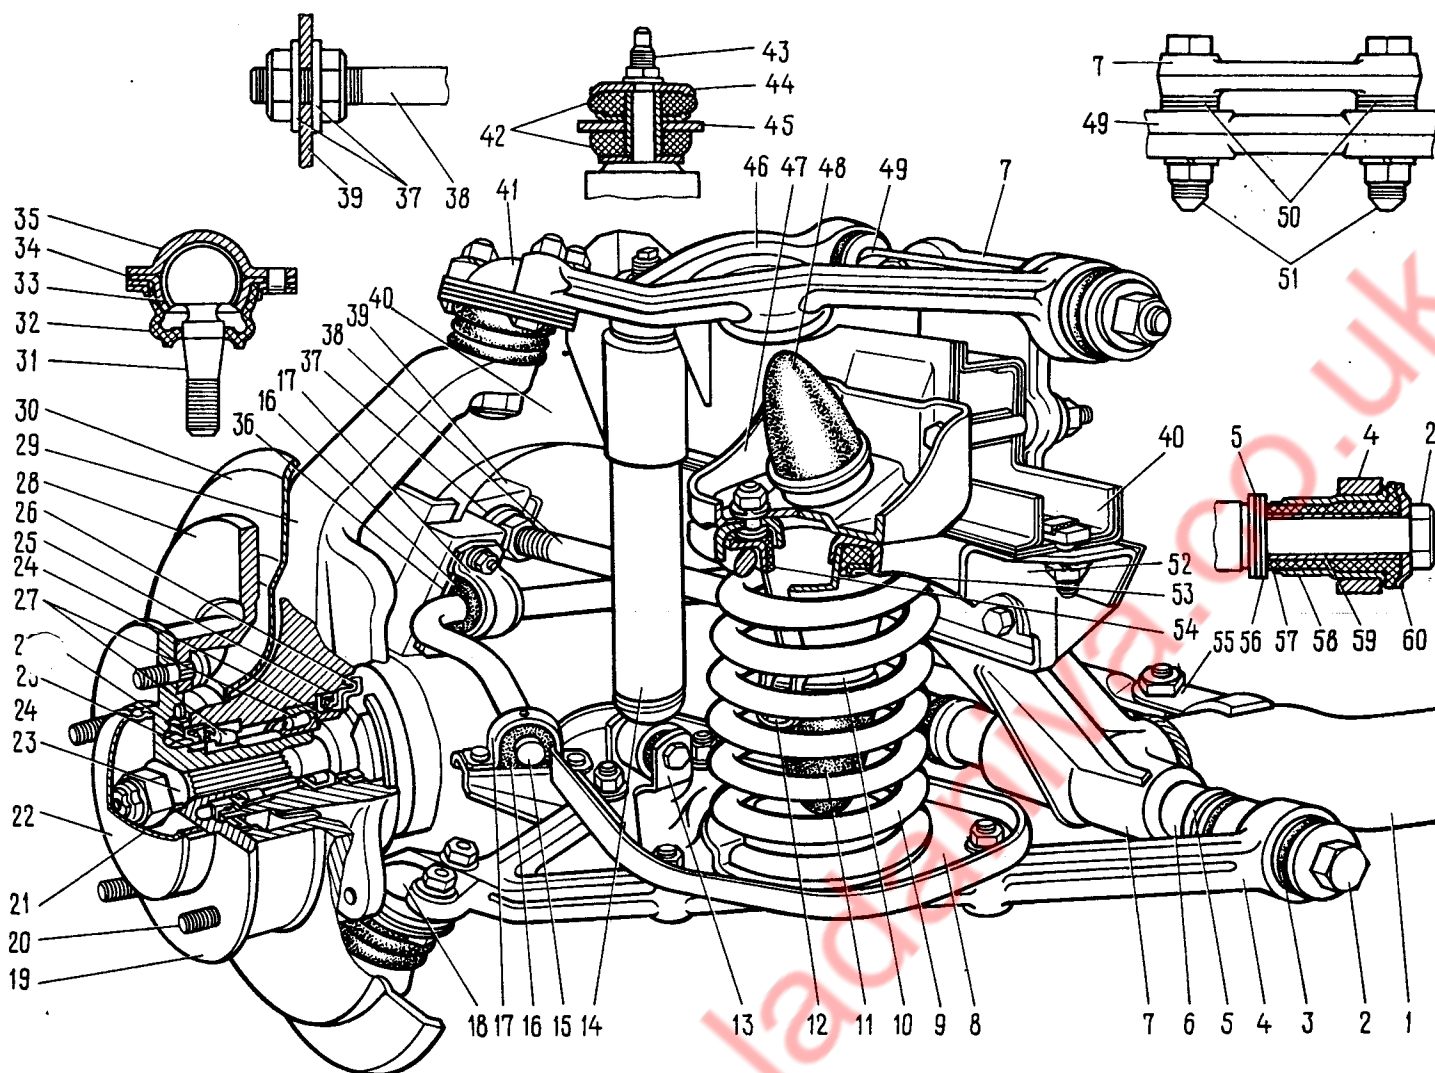

Fig. 4-1. Front Suspension:
The design of the front suspension is shown in Fig. 4-1.
Caster. If the measurements show that the caster angle comes out of the above-specified limits, change the number of adjusting washers 50 (Fig. 4-1) installed between the upper wishbone shaft and the crossmember bracket (see Table 4-1).
Camber angle. If the camber angle is other than normal, adjust it by changing the number of washers 50 (Fig. 4-1) installed between the upper wishbone shaft and the crossmember bracket.
- using remover tool 67.7823.9514, remove the cap from the wheel hub, unscrew the adjusting nut and remove bushing 21 (Fig. 4-1);